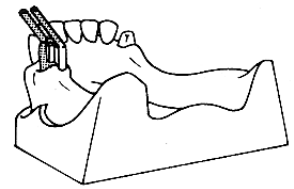

Fig. 7
9. Sprue the crown and the male attachment (Fig. 7).